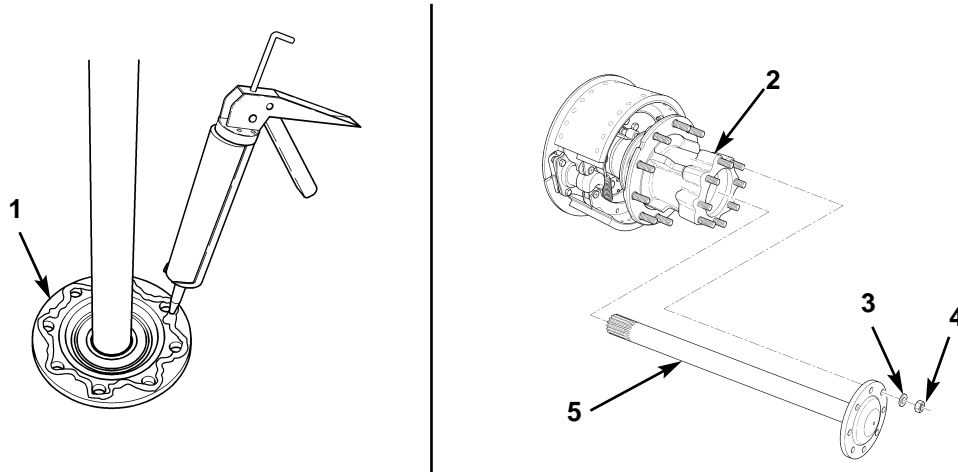

Figure 6. Installing Axle Shaft.
14. Remove old adhesive from axle shaft flange (figure 6, item 1) and apply adhesive to axle shaft flange (figure 6, item 1).
15. Install axle shaft (figure 6, item 5) on rear hub (figure 6, item 2) with eight washers (figure 6, item 3) and new locknuts (figure 6, item 4).
16. Position suitable tanker bar to prevent rear hub (figure 6, item 2) from turning clockwise. Tighten eight locknuts (figure 6, item 4) to 90–120 lb-ft (122–163 N•m).